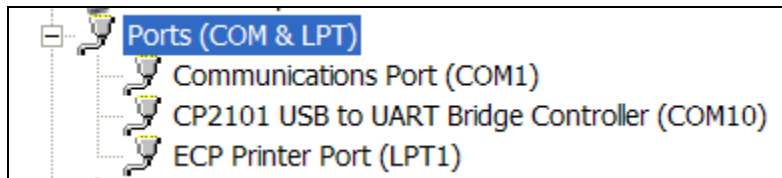

Figure 12 – CP2101 Assigned to COM10
16. Close the Device Manager, and then re-open it. Under **Ports**, the CP2101 USB to UART Bridge Controller is now assigned to COM10, as shown in Figure 12.